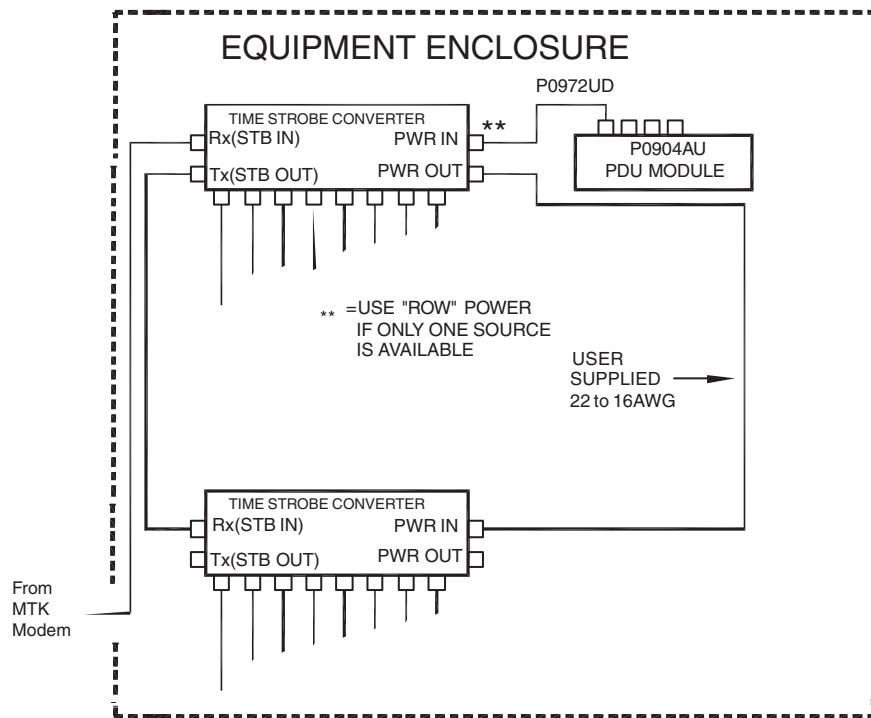

Figure 5-48. P0904AU PDU, Single TSC Power Connection
5. Connect cable P0972UD to the TSC (see Figure 5-48):